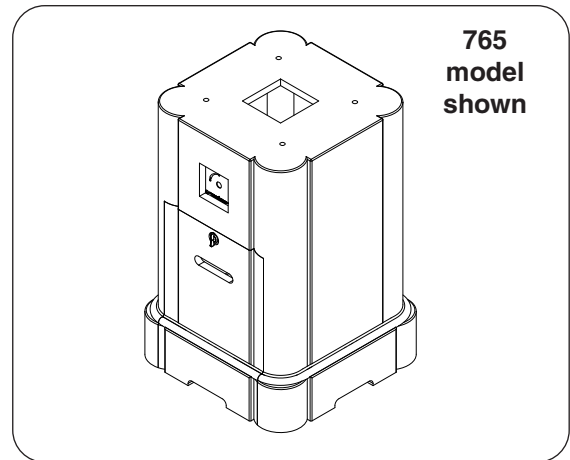

Fig. 18-1 Place pedestal base
1. **CAREFULLY** place the base in an appropriate location (see Fig. 18-1, and refer back to the LOCATION section if needed).